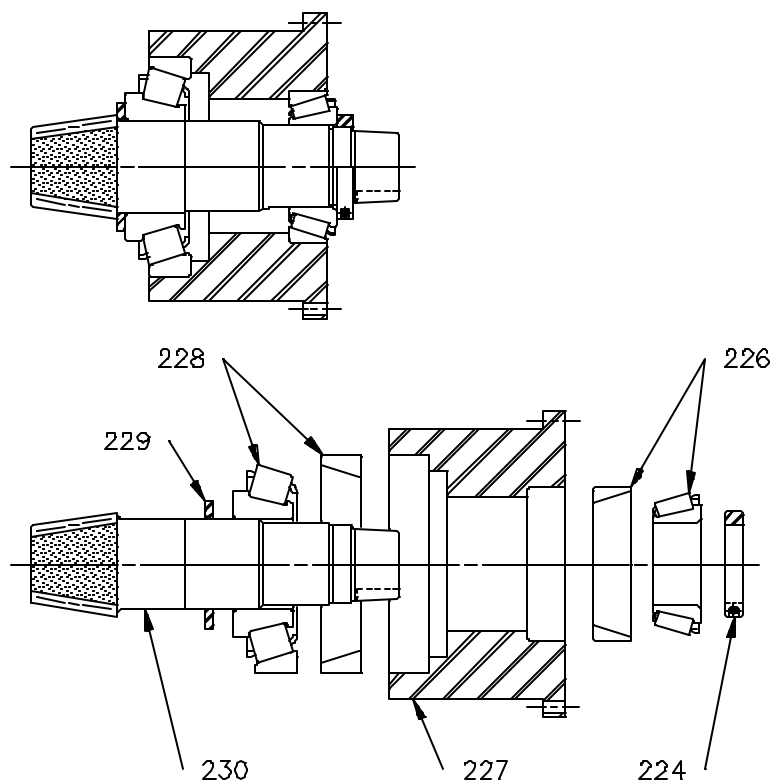

Figure 1: Spiral Bevel Pinion Cartridge Assembly [223]
| Figure 1: Spiral Bevel Pinion Cartridge Assembly .....  | 4  |
6. Remove spiral bevel pinion cartridge assembly [223] (Figure 1, page 4) and shim set [236]. Keep the shim set intact for reference at assembly.